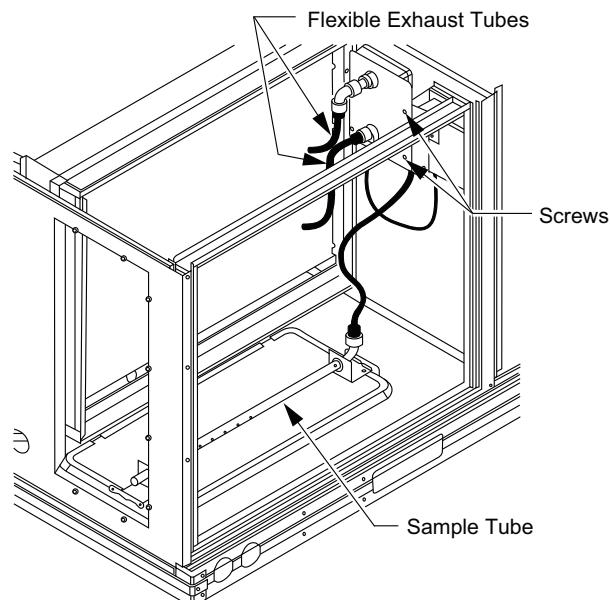

Fig. 44 – Return Air Smoke Detector Shipping Position
1. Unscrew the 2 screws holding the return air sensor detector plate. See Fig. 44. Save the screws.